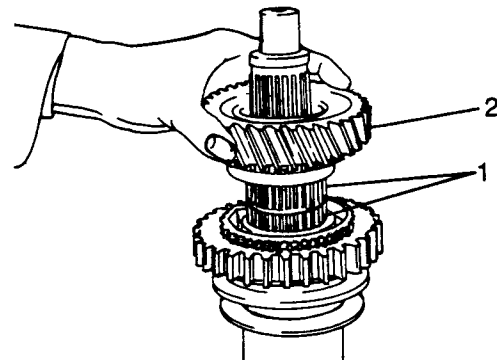

Fig H1.153
- (1) Refer to Fig H1.153. With the main shaft and 1st and 2nd synchro unit fitted, fit the 2nd gear bearings (1).
- (2) Fit the 2nd speed gear with the conical surface towards the synchro unit.